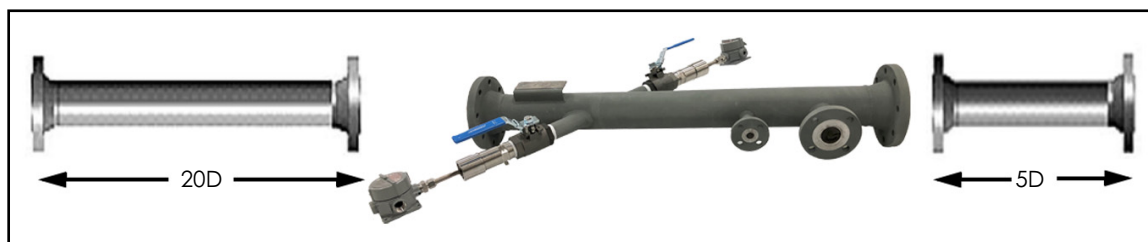

Figure 2: Minimum straight run pipe requirements
- Locate the flowcell so that there are at least 20 pipe diameters of straight, undisturbed flow upstream and 5 pipe diameters of straight, undisturbed flow downstream from the measurement point (see *Figure 2*). Undisturbed flow means avoiding sources of turbulence in the fluid (e.g., valves, flanges, expansions, elbows, etc.), avoiding swirl, and avoiding cavitation.